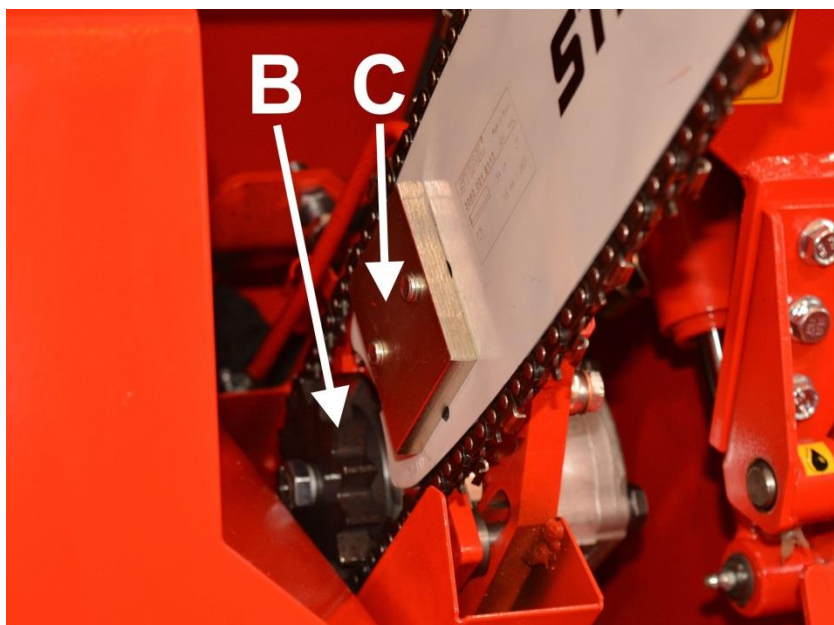

Figure 27.
3. Remove fastening plate C (Figure 27) and remove the saw bar from the groove.
4. Place the new bar against gear wheel B, twist it into the groove and loosely attach the saw bar bolts (A) and fastening plate C.